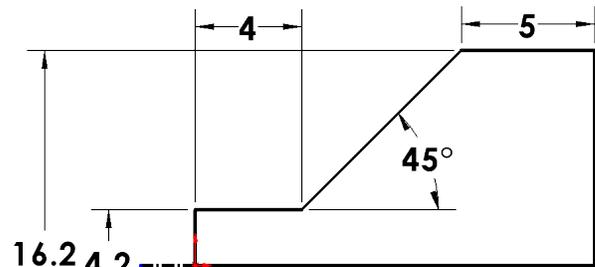

Fig. 4
Step 7. Click **Smart Dimension**  (S) on the Sketch toolbar.
Step 8. Add dimensions, **Fig. 4**. **Double distance the diameters.** To double distance dimension, click centerline and then top horizontal line, move the cursor below centerline and click. Key-in the diameter in the Modify box and press ENTER.